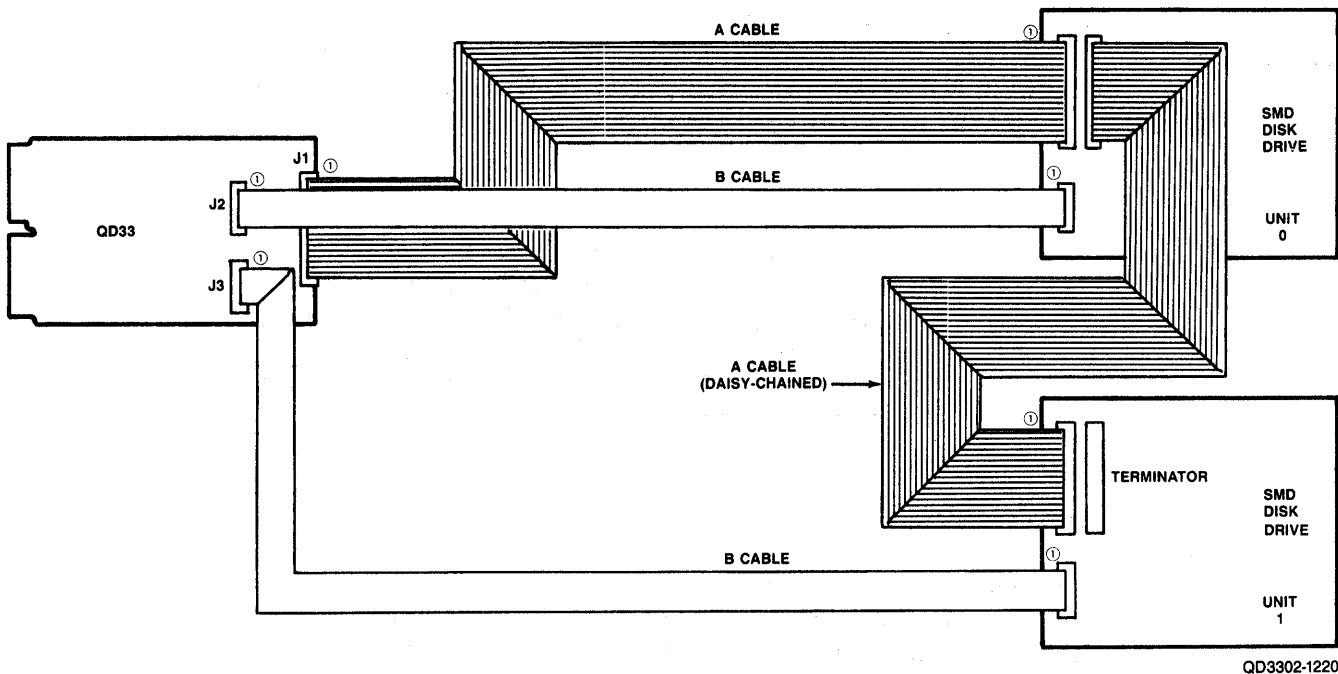

Figure 4-4. Drive Cabling
The QD33 Disk Controller interfaces with each disk drive that it controls via one control cable (A cable) and a data cable (B cable). See Figure 4-4. The A cable originates from connector J1 on the QD33 and is daisy-chained to all of the supported drives, terminating on the last drive. Maximum cumulative cable length for the A cable is 50 feet (15 meters). The B cables originate from connectors J2 and J3. A radial (B) cable is connected directly from the QD33 to each supported disk drive. Maximum cable length for the B cable is 50 feet (15 meters).
Tables 4-6 and 4-7 list cables offered by Emulex for the QD33. Figure 4-4 shows basic cable installation. In addition, Emulex offers the QD33 Cabling Kit (P/N QD3113003) for installation in a MICRO/PDP or MicroVAX I or II Tower. The QD33 Cabling Kit, which includes cables and panels for separate cabinet installation, is documented in the QD33 Cabling Kit Instruction Sheet (QD3352401).
To cable the subsystem, see Figure 4-4 and follow procedures listed below.